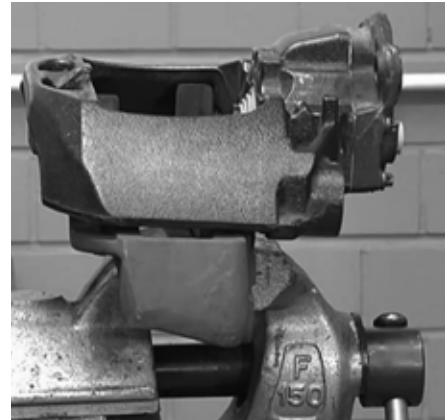

Figure 51: Brake mounted in vice
2. **Use** a suitable device to hold brake while servicing the brake assembly (Figure 51).
NOTE: The carrier should be in the holding device for reassembly (Figure 51 on page 25).